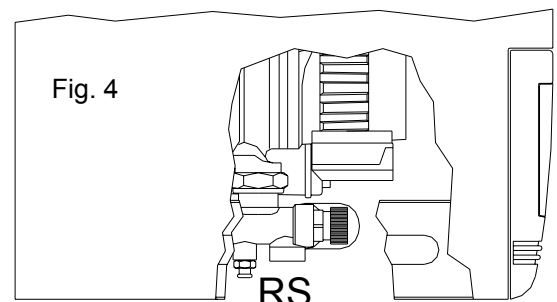

Fig. 4
- turn the system drain tap **RS** (see fig. 4) and use a container to collect the water that runs out;